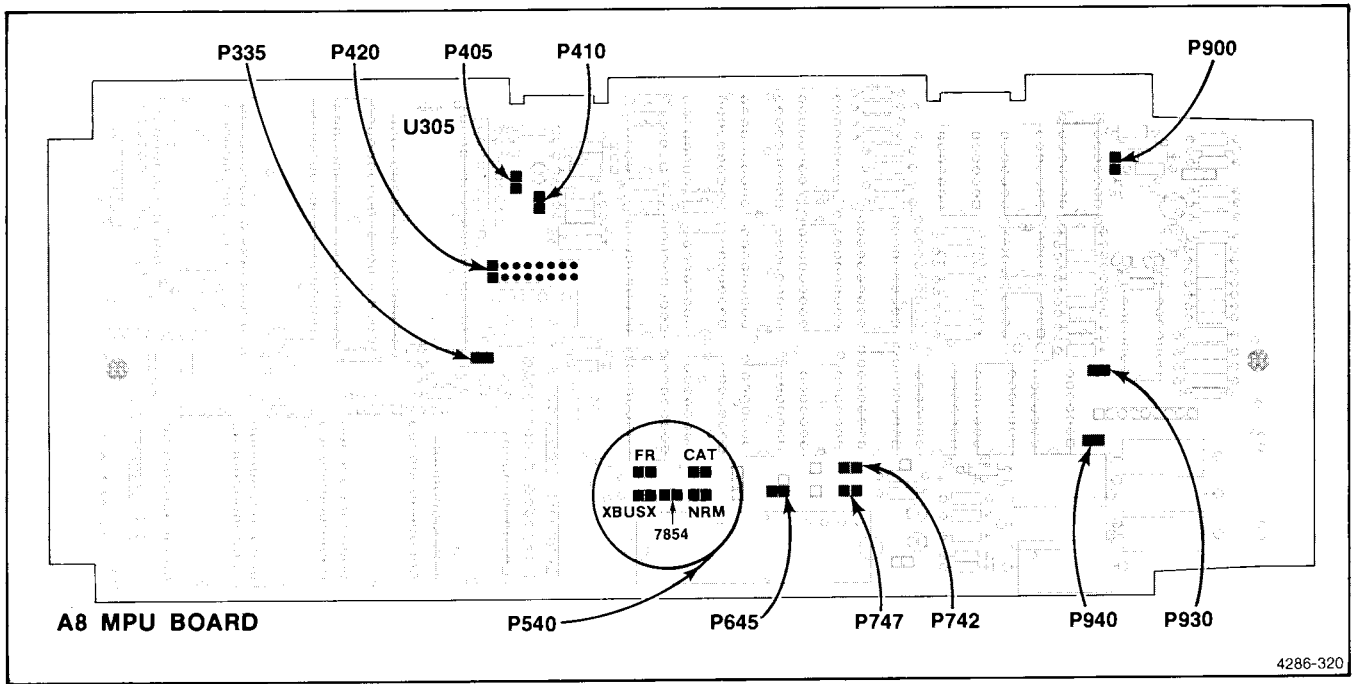

Figure 3-7. Location of jumpers on A8 MPU Board.
4. Remove the eight P420 link-plug jumpers located to the right of A8U305 (8085A). See Figure 3-7.
9. Install the  $\overline{ARST}$  link-plug jumper, P405, which is located to the right of A8U305. This will prevent automatic restarts to the processor. Figure 3-7 shows the jumpers on the A8 MPU Board.
3. Move the MODE link-plug jumper A8P540 to XBUSX position. See Figure 3-7.